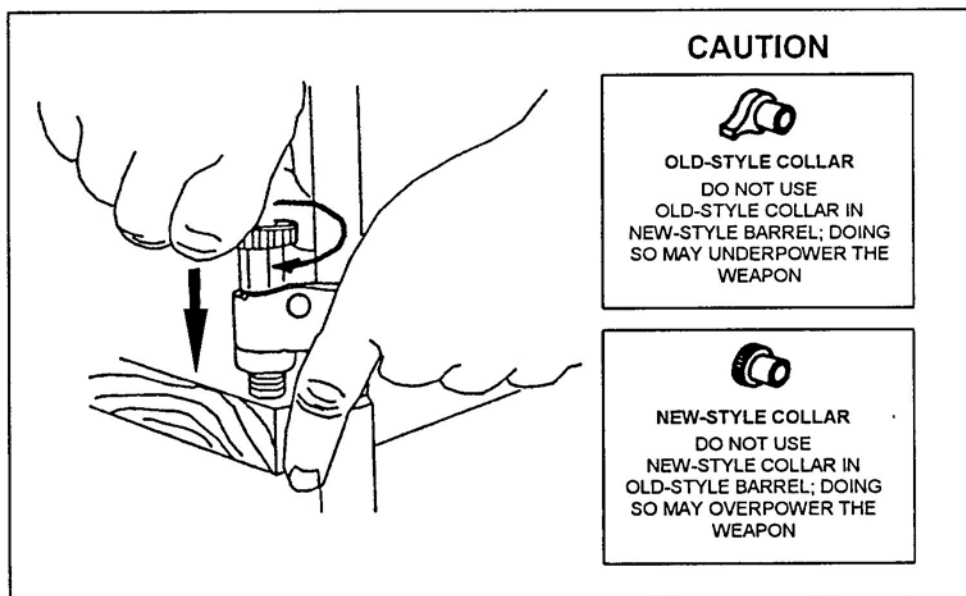

Figure 25. Replacement of the gas collar.
- (2) With the gas regulator installed and supported on a firm surface, place the gas collar on the protruding end of the gas regulator. Rotate the gas collar until it slips in place. To lock the gas regulator in place, press it in and rotate it (Figure 25).